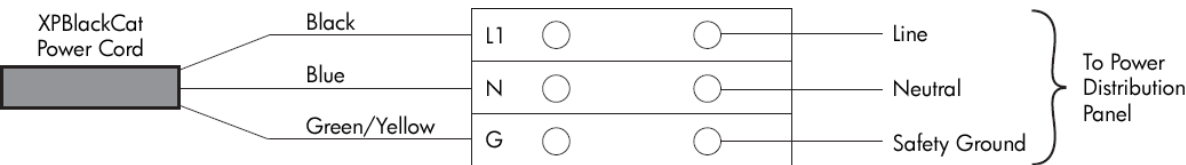

Figure 16. Single-phase power connections for Europe
**Caution** *Be sure to connect the power cords to the distribution panel as shown in Figure 16. Improper wiring of the neutral conductor may cause damage to the disk array. To reduce the risk of a wrong connection, use a plug and socket that are approved for this disk array. It is your electrician's responsibility to select and install the proper plug.*